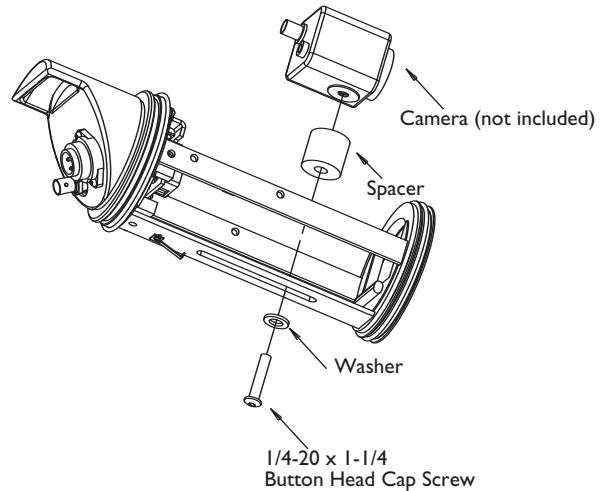

Figure 2 Mounting a Camera
- 1.1 Fixed Lens Cameras: Position the camera/lens 1 mm (0.04-inch) away from the faceplate. The camera/lens is secured to the cradle with a 1/4-20 button head cap screw (BHCS) and the appropriate plastic spacer (see **Figure 2**).